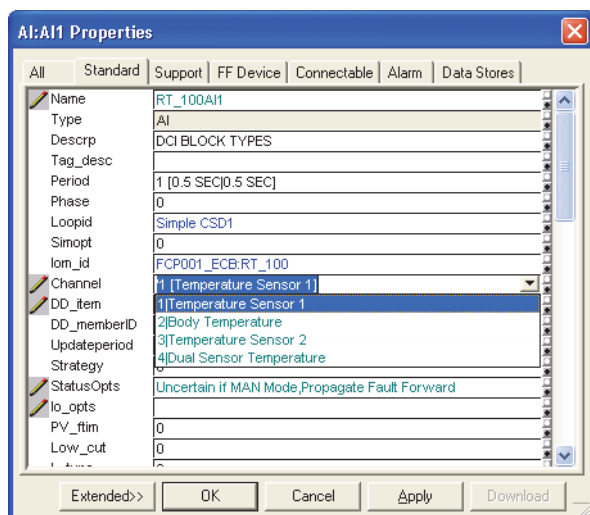

Figure 8. Device Specific Configuration Choices
IACC provides advanced support for integrating Foundation fieldbus (FF) H1 devices with the I/A Series system, including configuration of FF device function blocks. IACC interfaces with the DD Explorer application to link device descriptions with objects representing the FF objects. When the user connects these objects to the control strategy, IACC presents configuration choices based on the device descriptions, assuring an effective and appropriate interface with the field devices. Figure 8 shows selection of a channel in an AI block properties sheet based on the connected transmitter object.